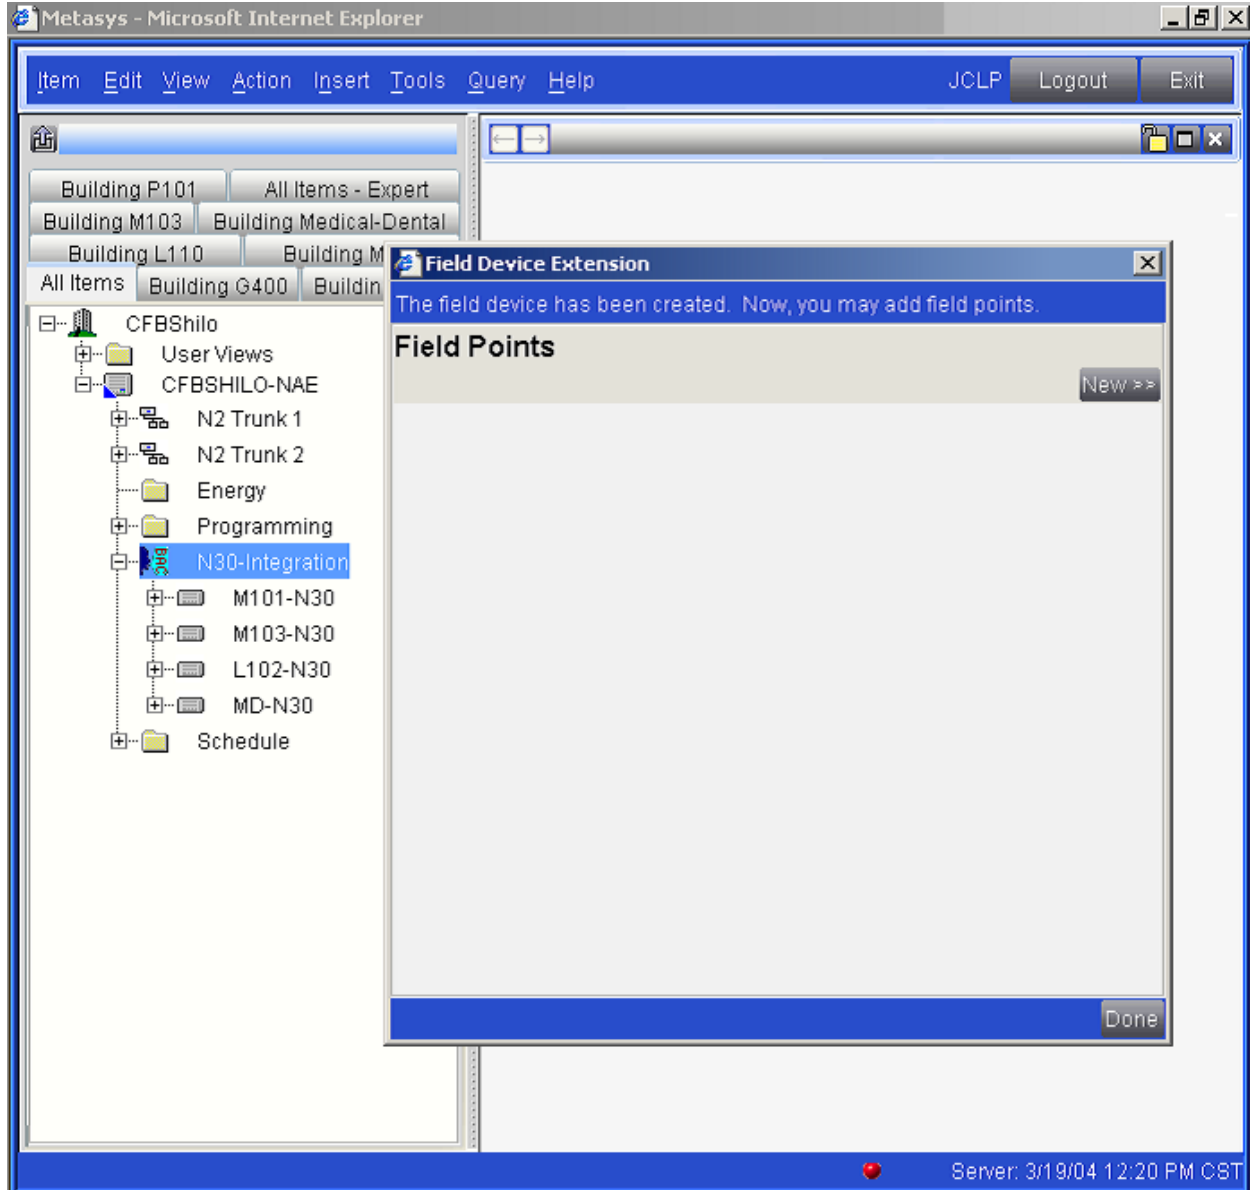

Figure 16: Field Points Wizard
6. Near the end of the Field Device Wizard, in the Extension Wizard screen, click Done. The Field Points Wizard screen appears to import the N30 Objects (Figure 16).